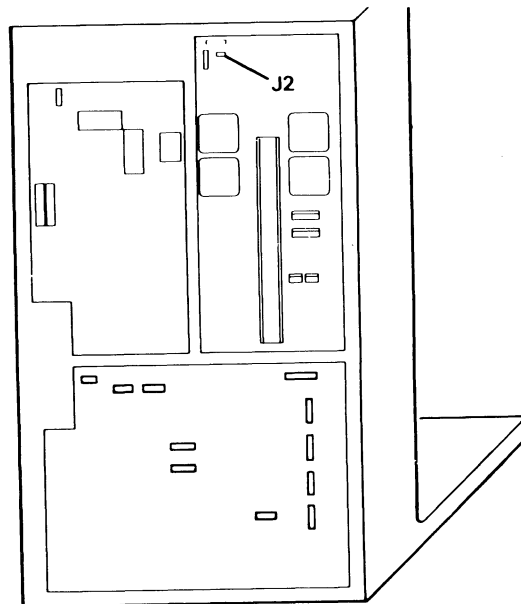

Figure 5.20 J2 Location
4. Unplug the control cable from J2 on the Driver PC board (see Figure 5.20).